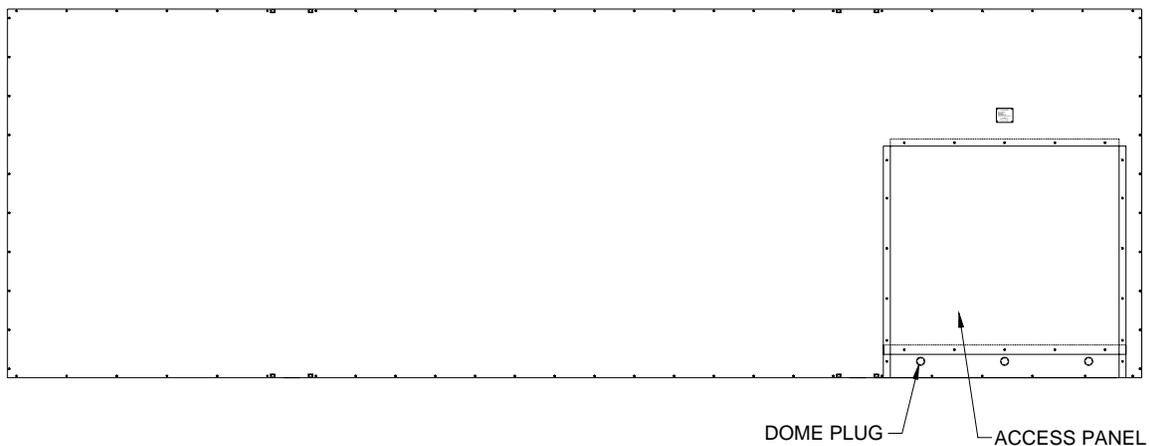

Figure 5 Rear Access Panel
3. Remove the rear access panel and the dome plugs on the plate below the access panel. Figure 5 shows the location of the access panel and the dome plugs.